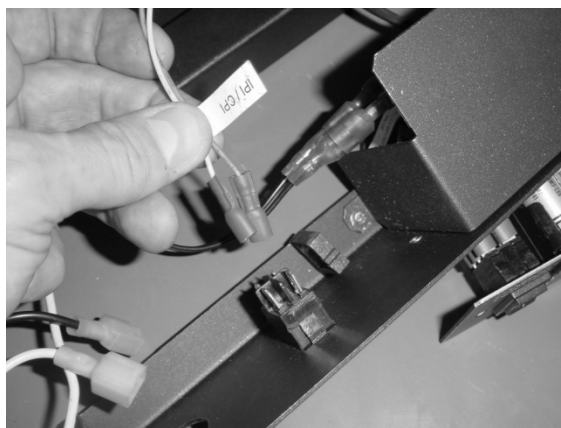

Figure 6
- 5 Disconnect the two leads on the back of the control panel for the IPI / CPI switch (continuous pilot / greensmart pilot – see Figure 6).